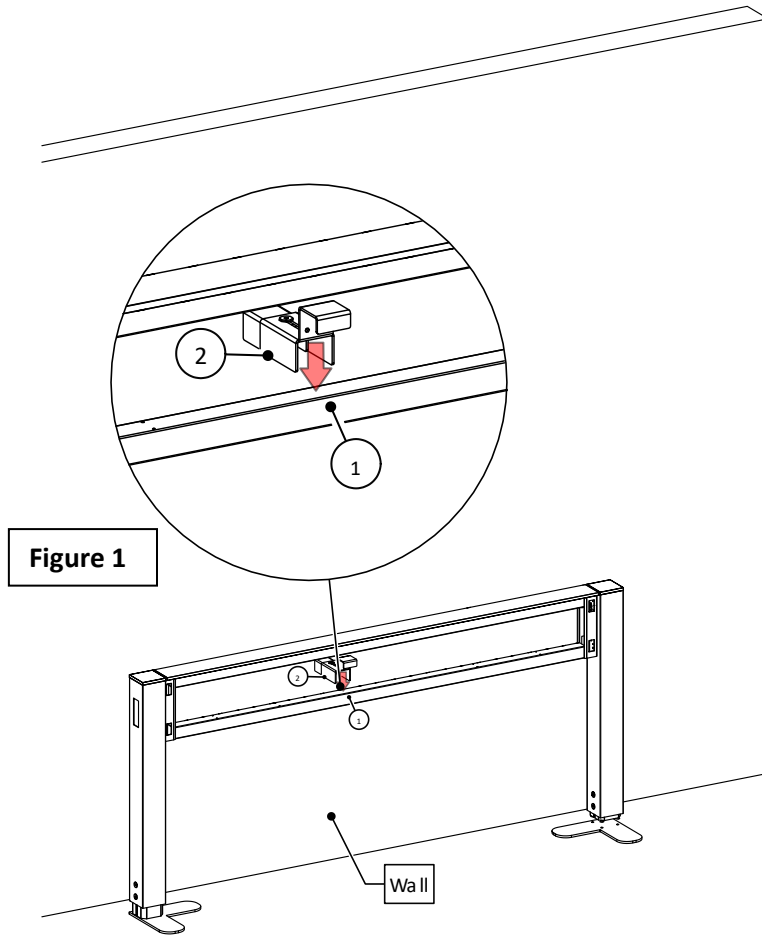

Figure 1
STEP 1: Use a stud finder to locate the studs in the wall and mark their positions. Next, hook the bridge wall mount bracket onto the bottom frame of the bridge and position it over the marked area, as shown in Figure 1.